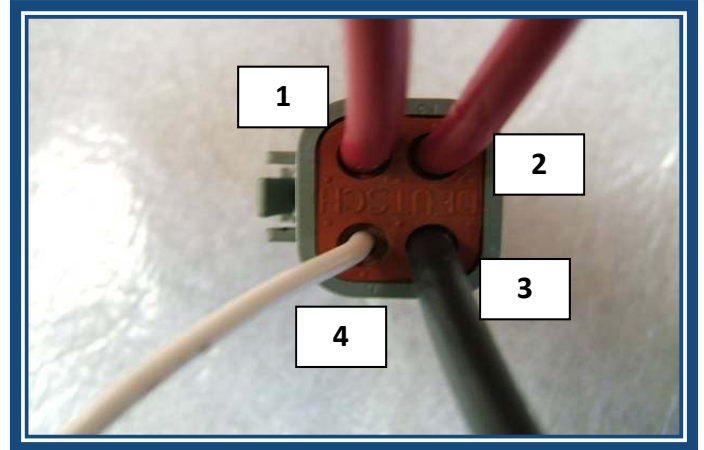

Figure 7
Step 7: Verify that the wires are inserted into the connector correctly, in the correct position, and locked into place. (See Figure 7)